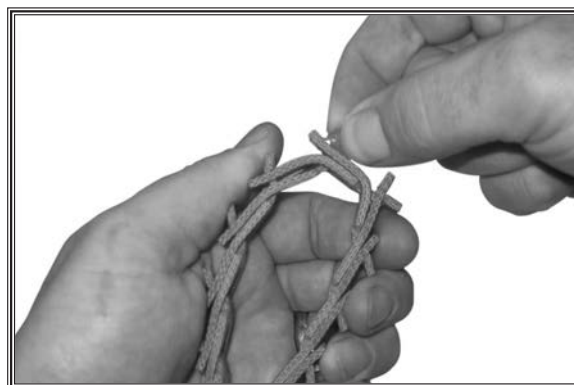

Figure 8. Twisting the tab.
2. Twist one of the tabs sideways, as shown in **Figure 8**, and push it down through the two layers of links.